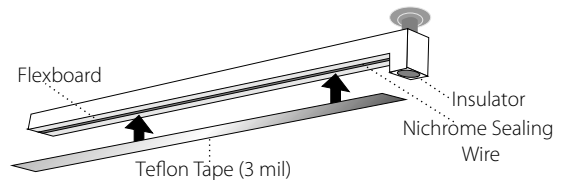

FIGURE 2
7. Apply new teflon tape (3 mil) to flexboard over nichrome sealing wire. (See Figure 2.)